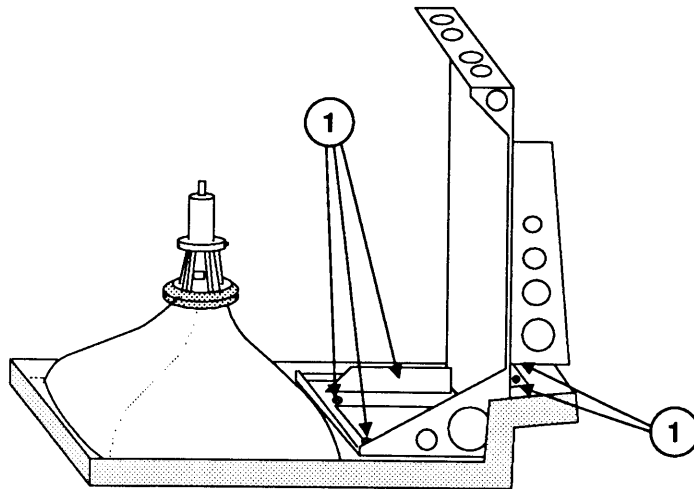

FIGURE 47
5. Remove five Torx screws (Figure 47, #1) and lift out the metal chassis with hard disk and/or drive(s).